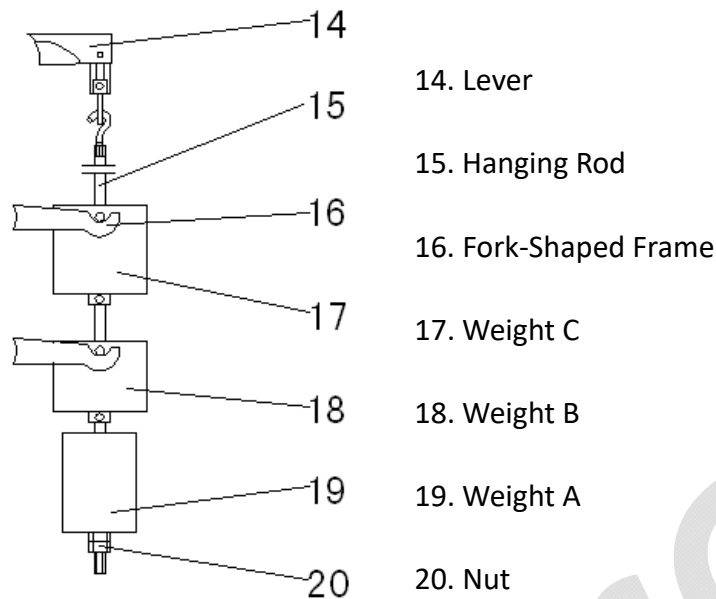

Fig.3
4.4 The Installation of the Weight Group (Fig.3)